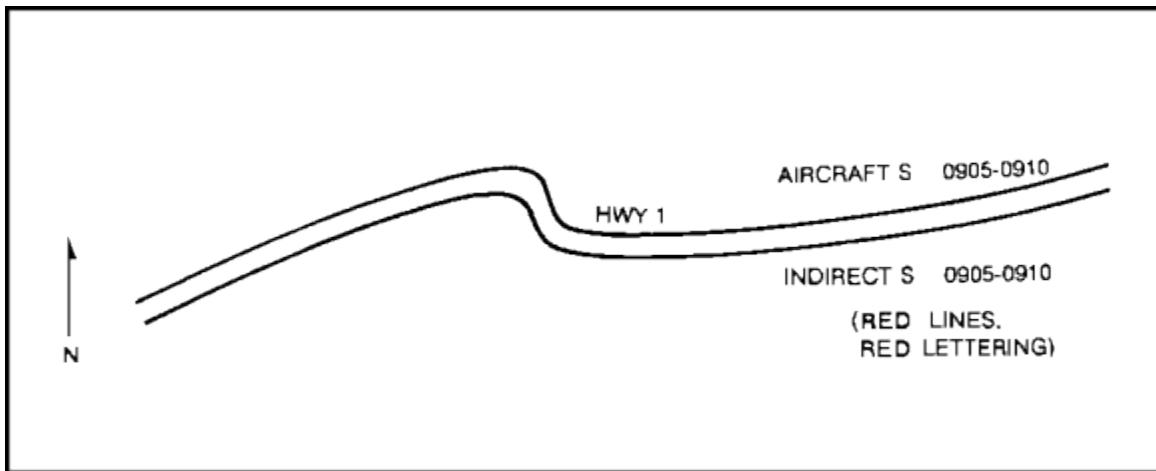

Figure 1-18. Informal ACA graphic symbol
- Informal ACA—normally used for immediate air strikes when time is not available for the formal measure. It can be a time-distance separation or a terrain feature separation of the attacking air and surface fires. (Figure 1-18 shows a sample informal ACA in which air fires are allowed only to the north of the road from 0905 hours to 0910 hours.) The informal ACA can be established at task force or higher level. The graphic symbol for the informal ACA is shown in Figure 1-18.
(3) Close Air Support. US Air Force close air support (CAS) provides additional fires. Each battalion task force is augmented with a TACP from the US Air Force.